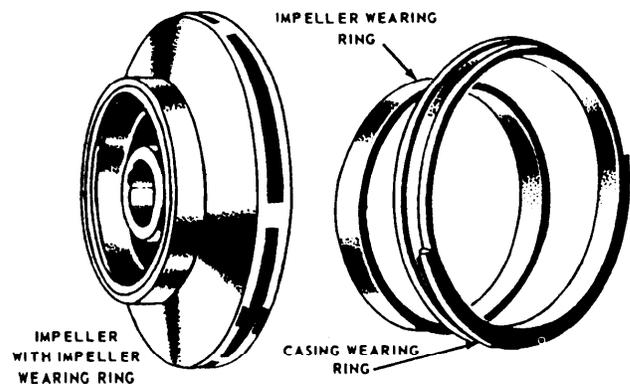

Figure 5-8.—Impeller, impeller wearing ring, and casing wearing ring for a centrifugal pump.
**RENEWAL OF WEARING RINGS.—**The clearance between the impeller wearing ring and the casing wearing ring (figure 5-8) must be maintained as shown in the manufacturer's plans. When the maximum allowable clearance is exceeded the wearing rings must be replaced. In most cases, this can be done by the ship's force. However, if your machine shop does not have the proper lathe, then you must send the pump out for repairs.